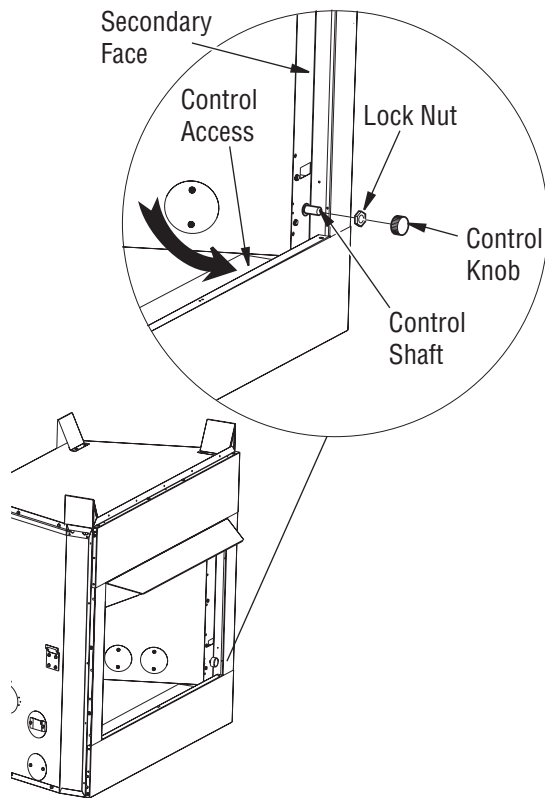

Figure 2 -Attaching Speed Control (Model May Vary From Illustration)
2. Remove metal lock nut from plastic control shaft by turning lock nut with pliers counter clockwise. Mount speed control box by placing plastic control shaft through hole on lower portion of the left or right side of secondary face by sliding control box down through large hole in firebox bottom and up behind firebox side (see Figure 2, page 3). Secure speed control to side face with previously removed lock nut by pushing and turning lock nut clockwise with pliers until it is tight against side face of fireplace (see Figure 2, page 3).
3. Place control knob, provided, onto control shaft (see Figure 2, page 3).